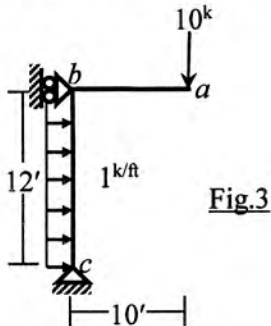

Fig.3
3. For the frame shown in Fig.3, calculate the unknown rotations at joint *b* and *c* neglecting axial deformation [Given: $EI = 20 \times 10^3 \text{ k-ft}^2$].